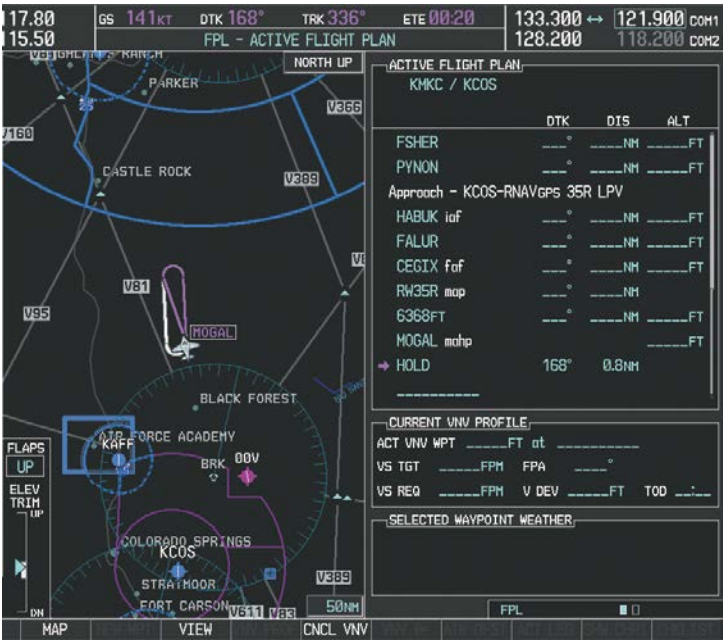

Figure 5-151 Establishing the Holding Pattern
26) The aircraft continues climbing to “AT or ABOVE” 10,000 feet at MOGAL. A holding pattern is established at the MAHP (MOGAL) as shown in Figure 5-151.